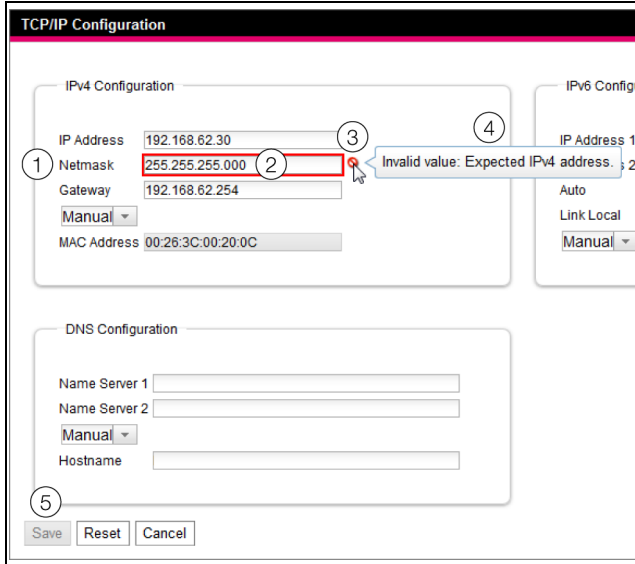

Fig. 21: Display of an incorrect input
- A red "prohibit symbol" (fig. 21, item 3) appears behind the faulty entry (fig. 21, item 2) in the field **Netmask** (fig. 21, item 1).
- When you place the mouse pointer over the prohibit symbol, a notice with additional information about the error appears (fig. 21, item 4).
- The **Save** button is deactivated (fig. 21, item 5) so that the currently stored values cannot be saved.